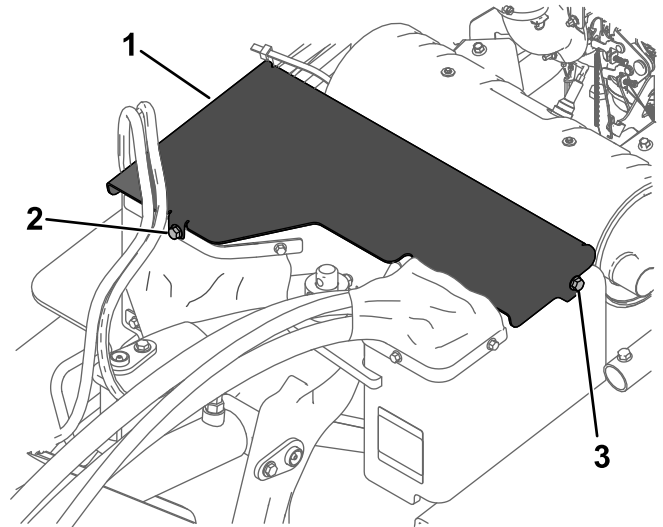

Figure 25
3. Remove the front bolt and loose then left bolt securing the front cover to the machine (Figure 25).
4. Slide the cover forward slightly and pull up to remove the cover (Figure 25).
5. To install the front cover, slide the front cover into place and secure it with the 2 bolts (Figure 25).